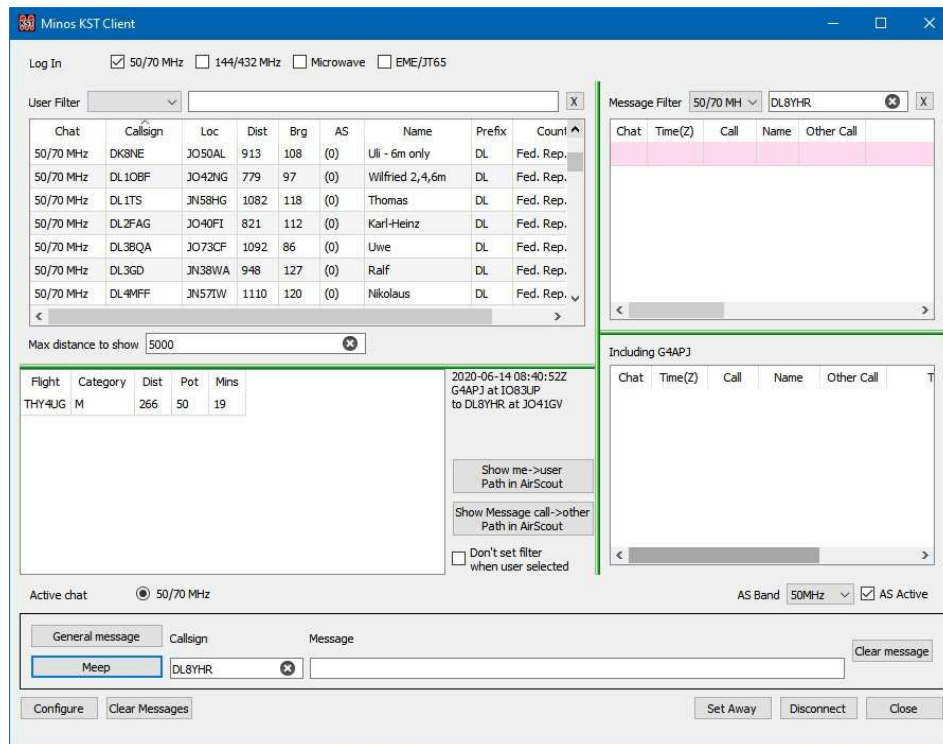

Figure 138 – Airscout operational in KST Client
Once the connection is established¹⁴² additional information (AS) is displayed in the User panel (on the left), and a new panel appears bottom left (Figure 138).